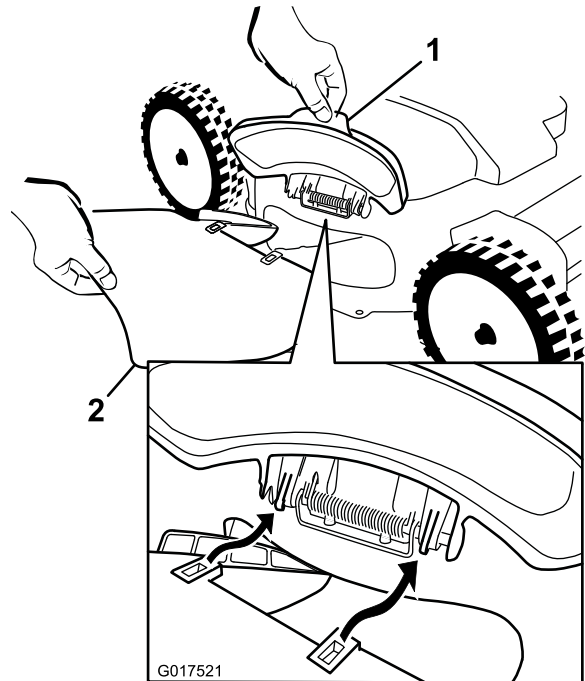
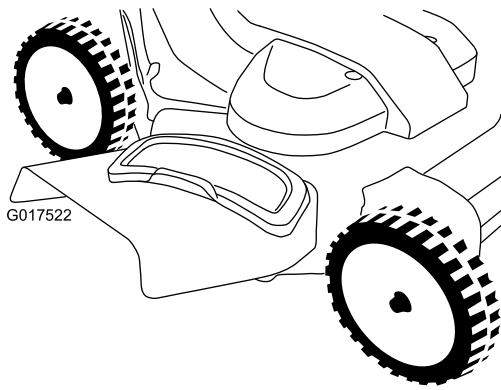

Figure 29
Figure 30
1. Lift open the side-discharge deflector (Figure 29).
2. Install the side-discharge chute as shown in Figure 29 and Figure 30, and close the deflector onto the chute.